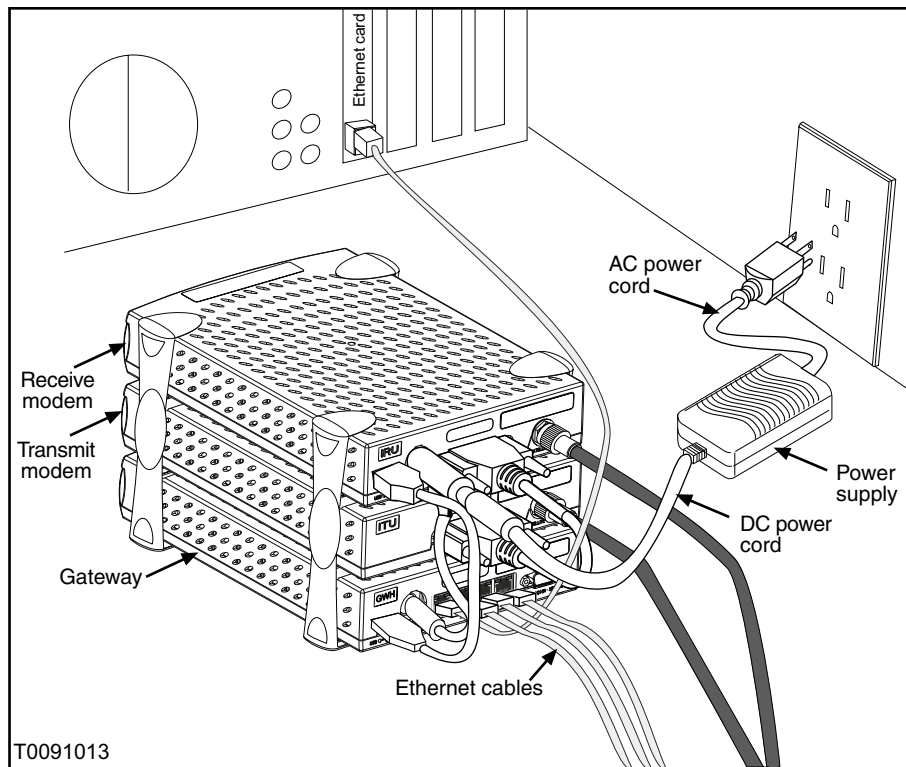

Figure 36: DW4020 connections
**Transmit Status messages** The following messages may appear in the Transmit Status field. The Comments section gives more information about each code, and describes any possible corrective measures. See Figure 36 on page 41 for corrective measure involving cables or the power supply. *Power cycling* means to unplug the power cord from the wall outlet or surge protector, wait 10 seconds, and plug it back in.
**Receive Status messages** The following messages may appear in the Receive Status field. The Comments section gives more information about each code, and describes any possible corrective measures. See Figure 36 on page 41 for corrective measure involving cables or the power supply. *Power cycling* means to unplug the power cord from the wall outlet or surge protector, wait 10 seconds, and plug it back in.